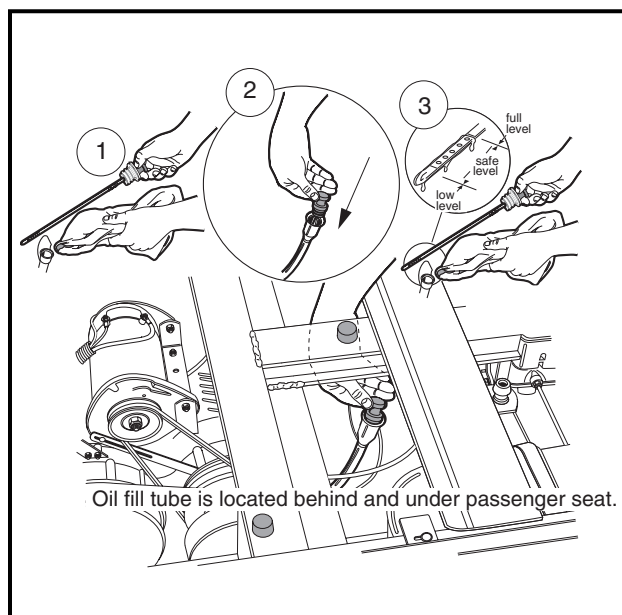
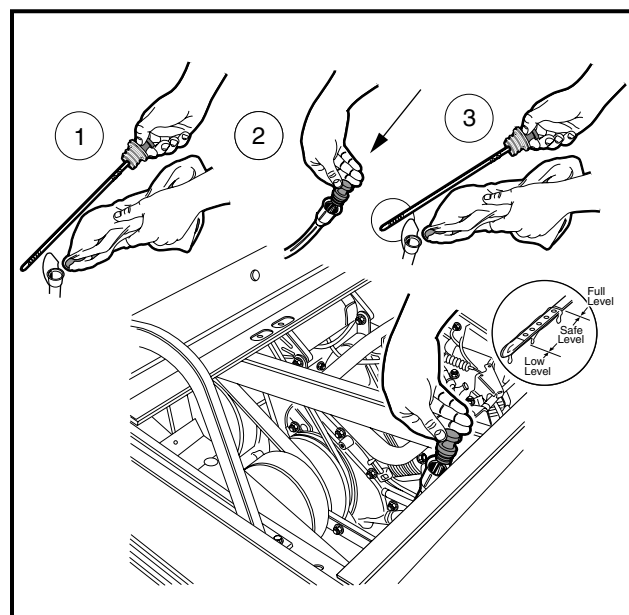

Figure 10-3 Turf/Carryall 272 Oil Level Check
Figure 10-4 Carryall 472 Oil Level Check
1. Remove the oil level dipstick from the oil filler tube and wipe oil from the stick (**Figure 10-3, Page 10-4** or **Figure 10-4, Page 10-4**). **See following CAUTION.**